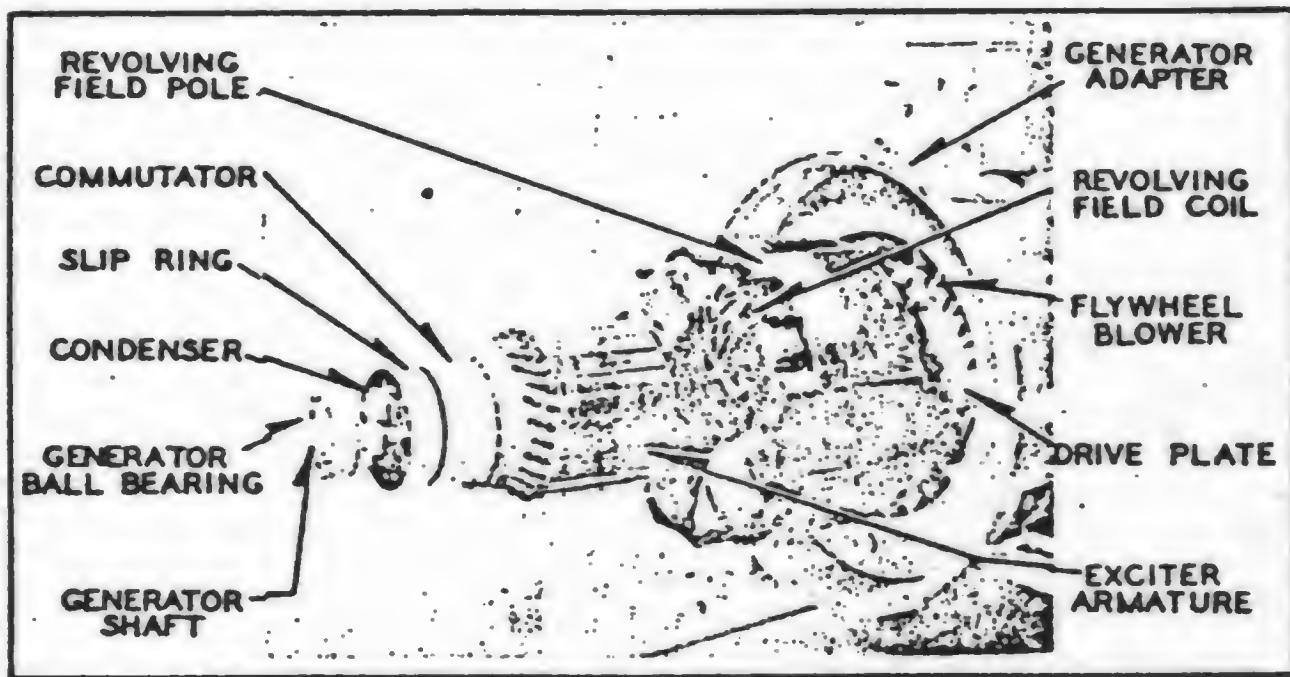

FIG. 13 ROTOR ASSEMBLY
**a. Purpose.** — The generator, Figs. 13 and 40, receives mechanical power from the engine and converts it to electrical power. It consists of a d-c exciting generator and a revolving field type of alternator.